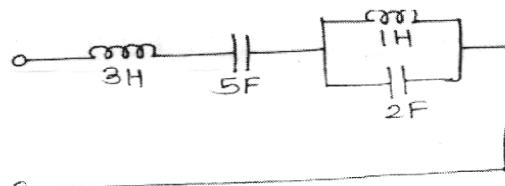

Fig. 12
b) Determine Driving Point Impedance function $Z_{11}(s)$ and Driving Point Admittance function $Y_{11}(s)$ for the network in Fig. 12. [6]